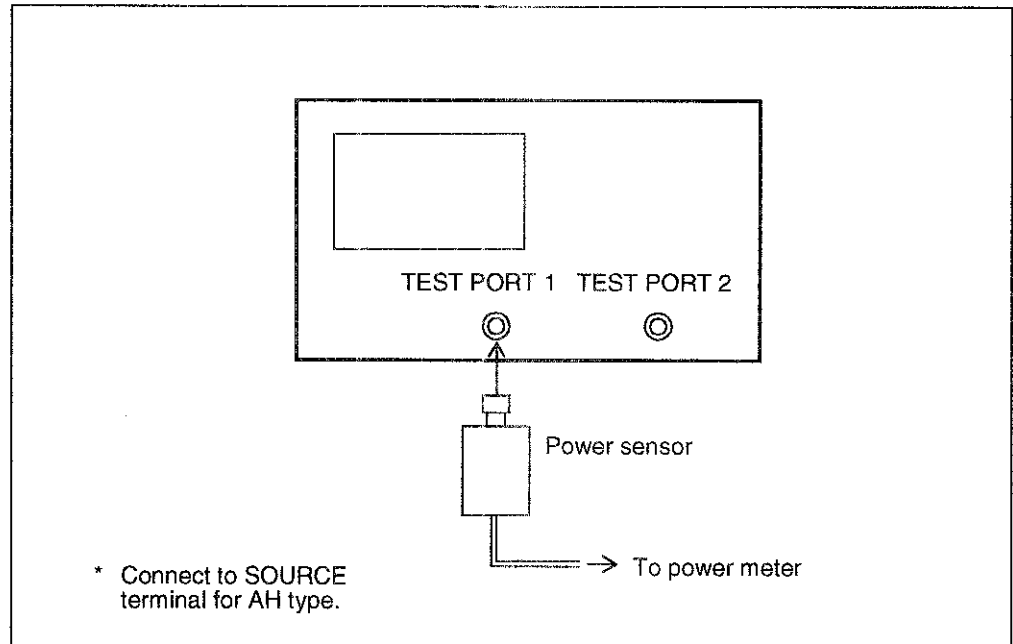

Figure 7-3 Output Level Linearity
- ③ Connect the power sensor to the output terminal and perform the measurement. (See Figure 7-3.)